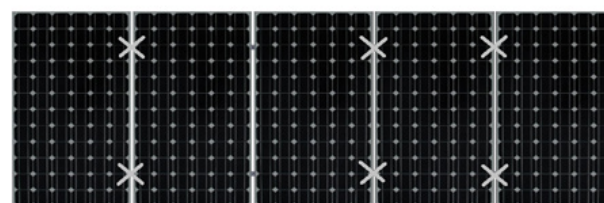

Figure 2
- When there is an odd number of PV Modules in each row, install grounding clips at positions marked X in Figure 2, where the number of Grounding Clips = number of PV Modules + 1. Figure shows 5 x PV Modules requiring 6 x grounding clips.